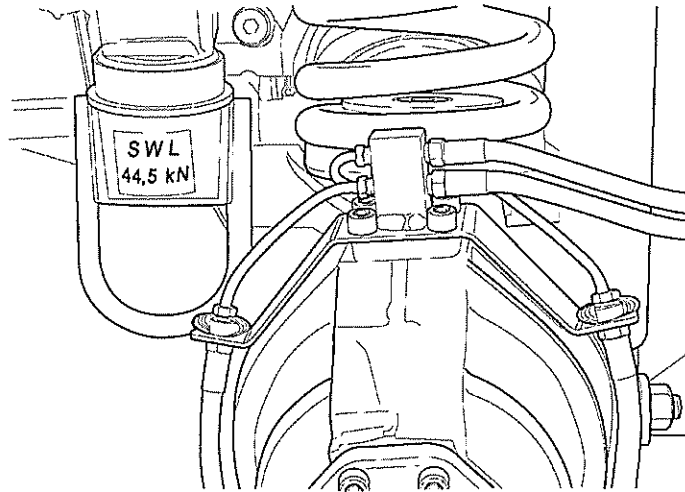

Fig 2 Front brake pipe fittings
4.6 Loosen right and left brake pipes from bracket on body and disconnect brake hoses. Ensure pipe and hose ends are plugged to prevent ingress of dirt (see Fig 2).